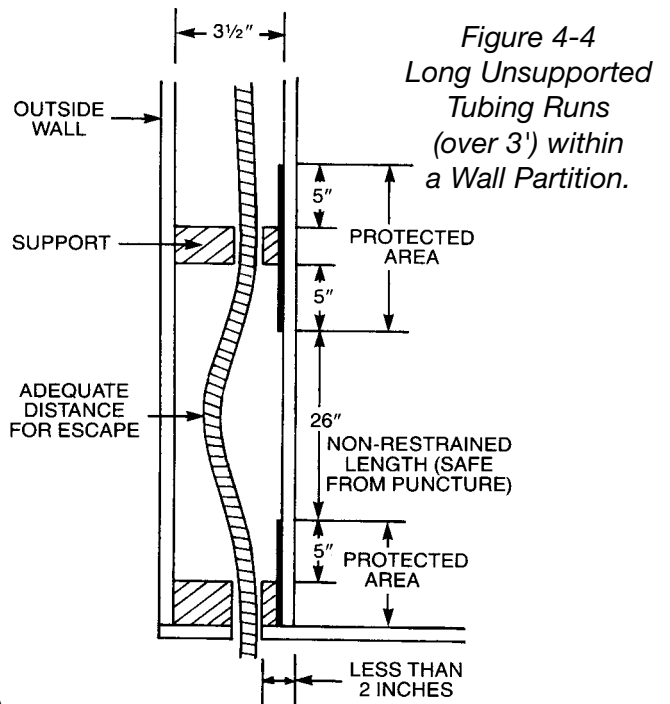

Figure 4-4 Long Unsupported Tubing Runs (over 3') within a Wall Partition.
- At support points and points of penetration less than 2 inches away from any edge of a stud, joist, plate, etc. shielding is required at the area of support and within 5 inches of each side (if appropriate). Use a half striker or a full striker plate in these locations. (Figure 4-4)